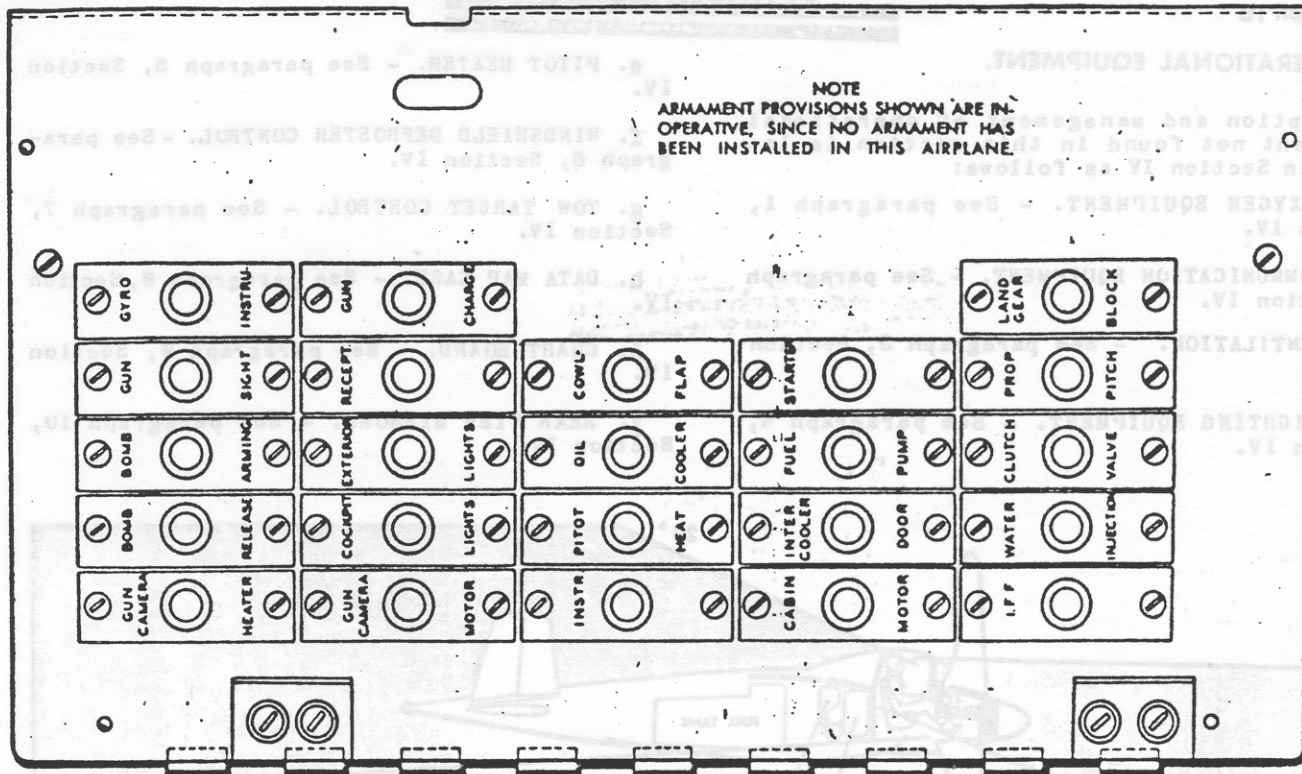

Figure 23 — Circuit Breaker Panel
(3) Additional electrical equipment is located as follows:
- (a) Circuit breakers (see figure 23).
d. **CIRCUIT BREAKERS.** - All of the circuits in the airplane are protected by circuit breakers, located on the vertical side of panel of the electrical control box. (See figure 23.) The circuit breakers are designed to maintain a closed circuit up to the rated current for the circuit. If an electrical overload of sufficient magnitude and duration occurs in a circuit, the circuit breaker button will pop out, thus breaking the circuit.